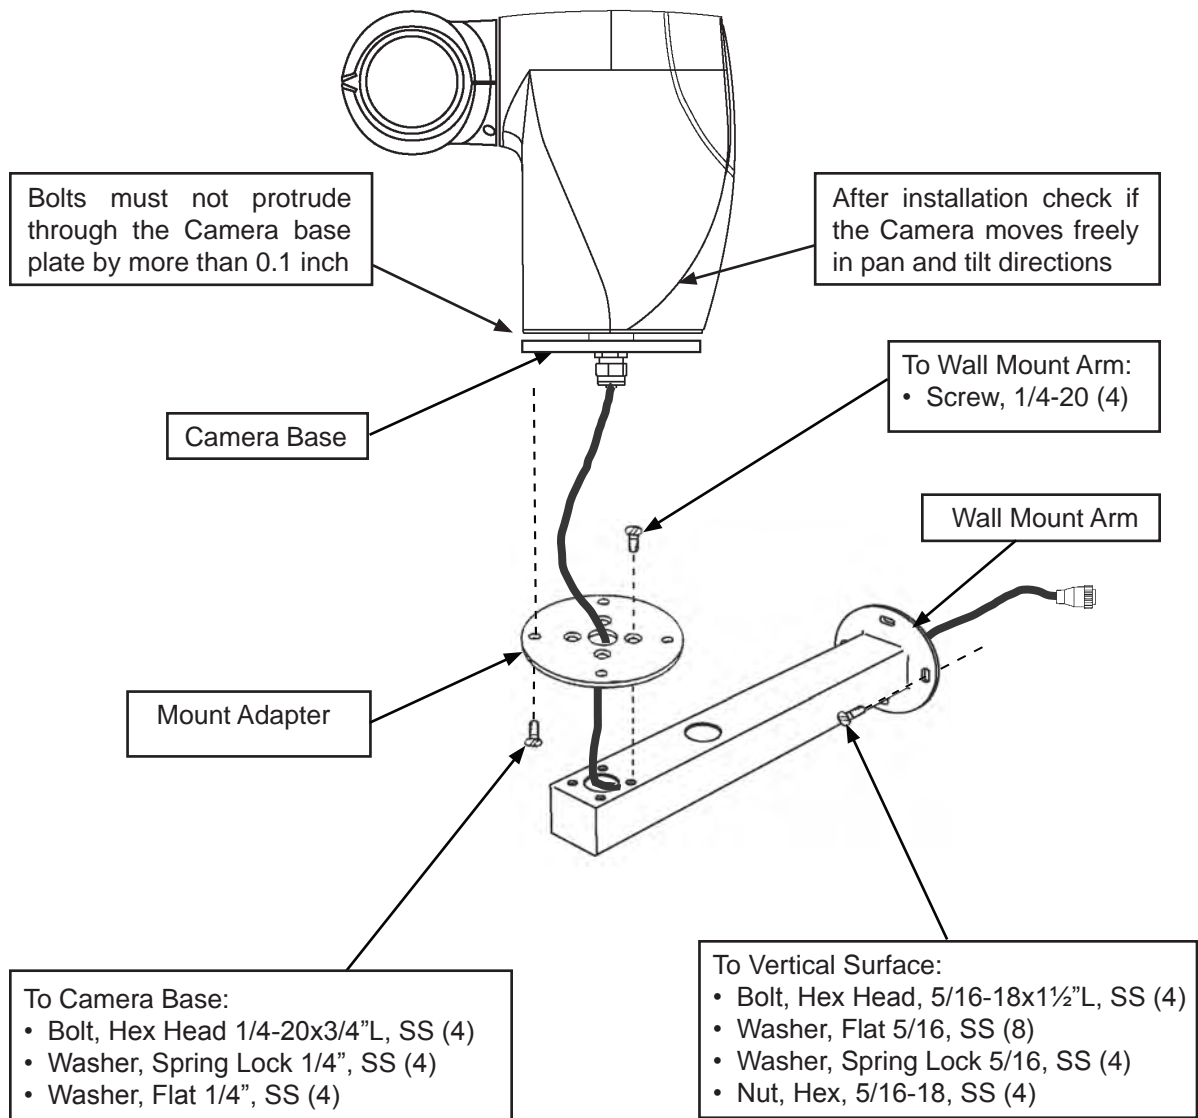

Figure 21. Installation to a Wall
- mounts to the pole using stainless steel straps. See Figure 21